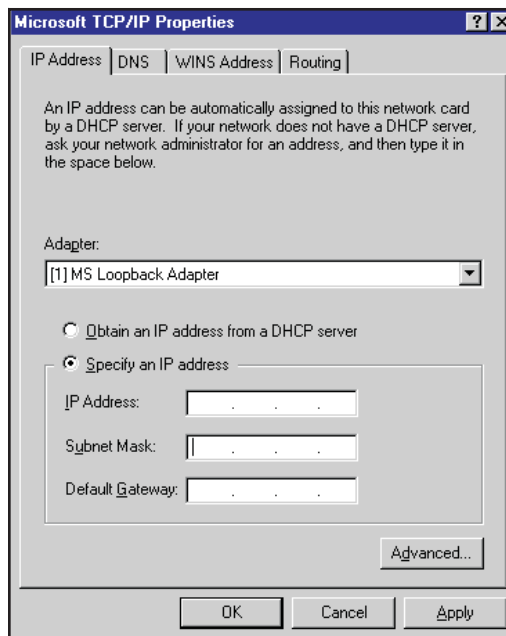

Figure 208 TCP/IP Properties Screen
2. Click the **Close** button to exit the Network setting dialog. You'll be prompted (via the dialog in Figure 208) to set up the TCP/IP properties.